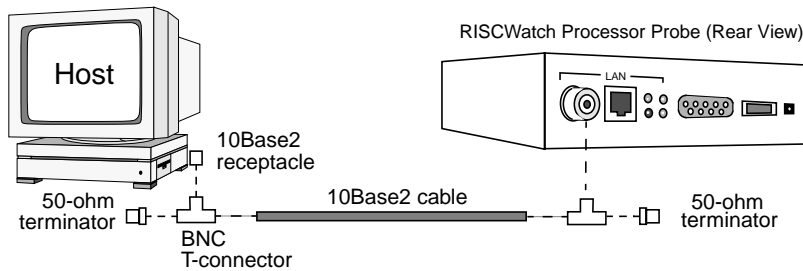

Figure 5-4. 10Base2 Ethernet Point-to-Point Connection
- a. For customers with no current Ethernet network, a point-to-point connection should be configured. A 10Base2 connection between a host machine and the RISCWatch processor probe requires a pair of BNC T-connectors and 50-ohm terminators, plus a short length of 10Base2 ThinLAN cable, as shown in Figure 5-4.
- b. For a 10Base2 connection to a site-wide LAN with multiple devices, the terminators would not be used, as shown in Figure 5-4.
- c. For 10BaseT Ethernet, the connection can be made in two ways. If the connection is to be used exclusively between the host and the Evaluation Board (a 10BaseT point-to-point connection), a crossover cable must be used to connect the two nodes (see Appendix A for a diagram of the wiring for a 10BaseT crossover cable). Figure 5-4 shows a point-to-point Ethernet connection using a 10BaseT crossover cable:
- d. Figure 5-4 shows a 10BaseT Ethernet connection using a hub: